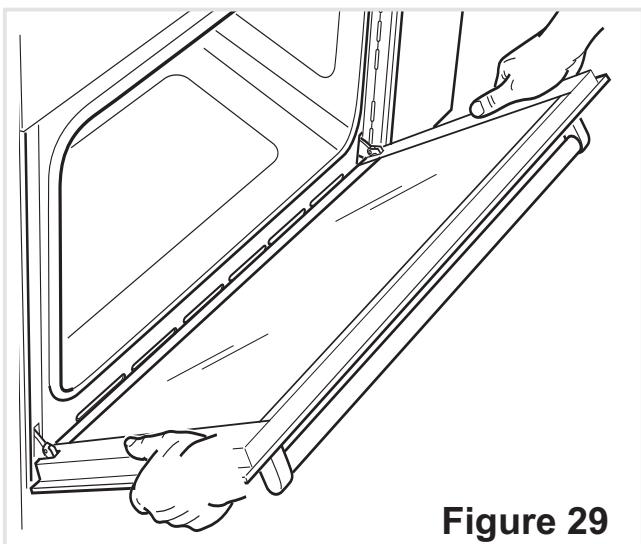

Figure 29
- Hold the door as shown in fig. 29.